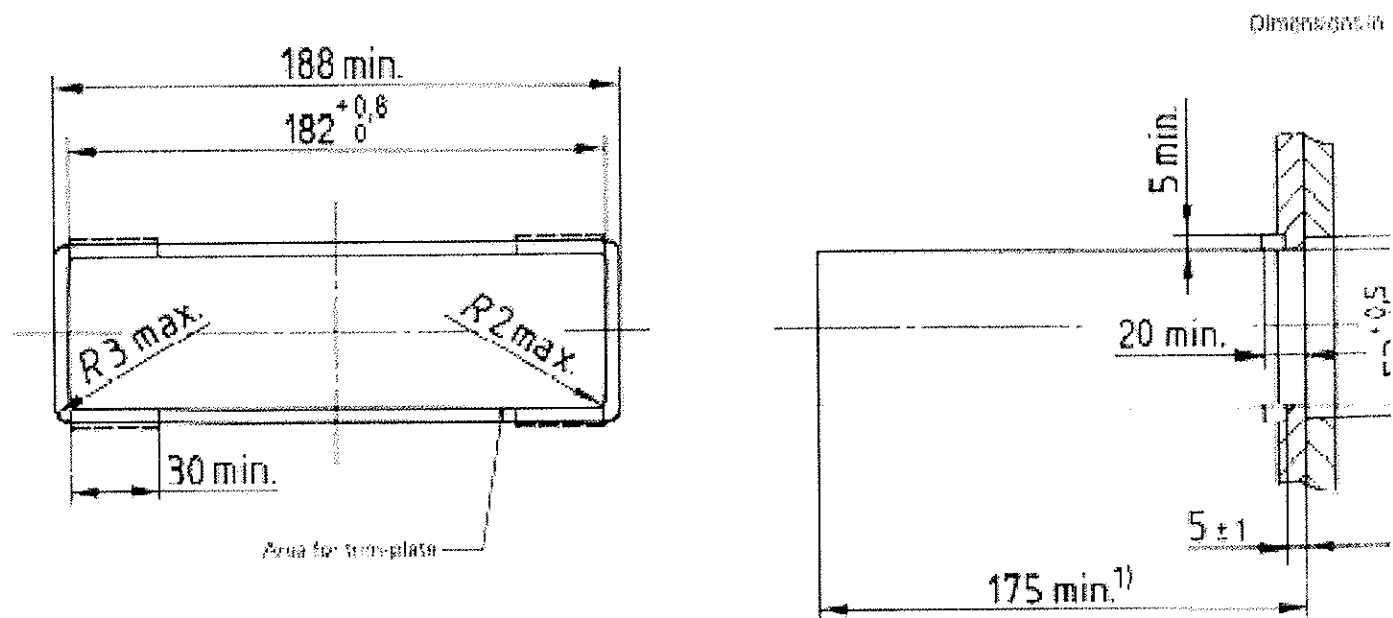

Figure 1 — Front fixing installation
3.1 Figure 1 gives the dimensions for installation by front fixing.